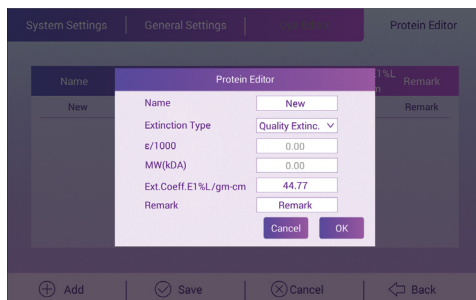

Figure 26
- (1) Add user-defined proteins: Click the "Add" to automatically add a self-defined protein at the bottom of the list;
- (2) Edit user-defined proteins: Select a line and enter the editing status. As shown in Figure 26. Name: Enter a special name for the protein.